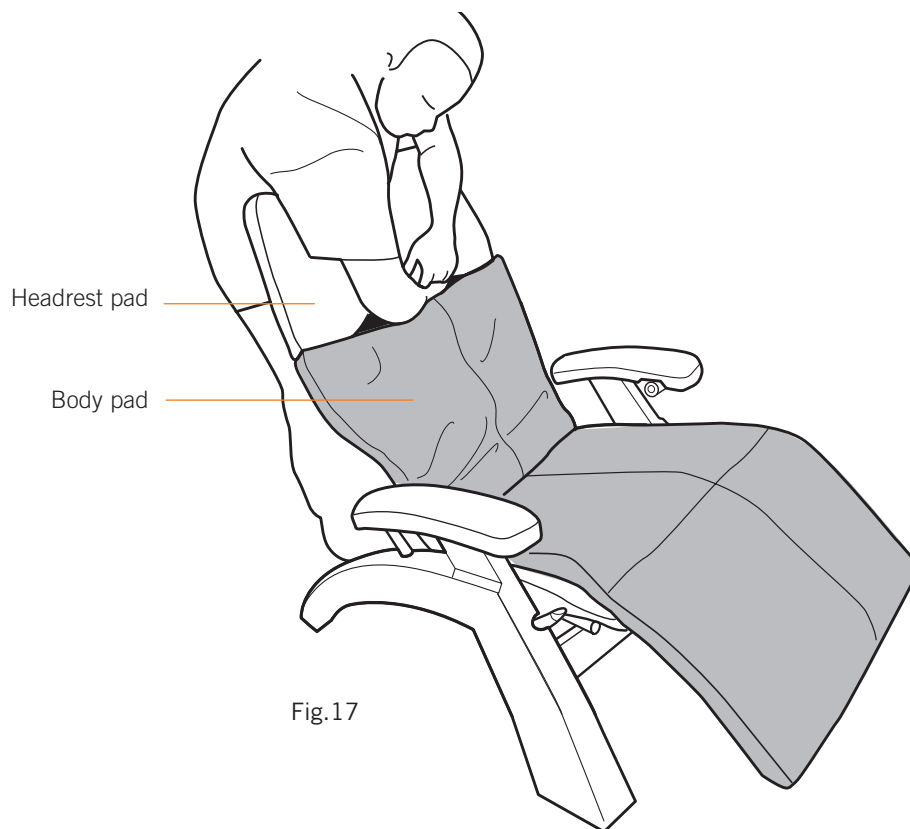

Fig.17
7. Tuck the flap on the top of the body pad up into the headrest pad and smooth the lower part of the headrest pad firmly flat to secure the hook-and-loop fasteners inside (Fig.17).